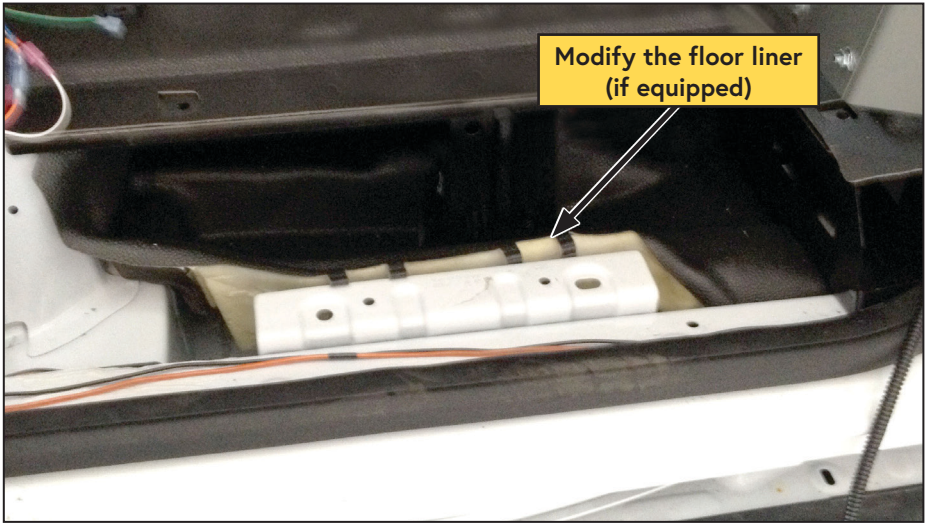

Figure 20 — Sub floor liner
- If there is a floor liner in the sub-floor, modify it to provide access to the floor tunnel (Figure 20).